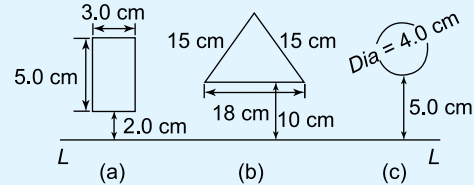

Figure 9.23
5. For each of the areas shown in Figure 9.23 determine the second moment of area and radius of gyration about axis LL , by using the parallel axis theorem.